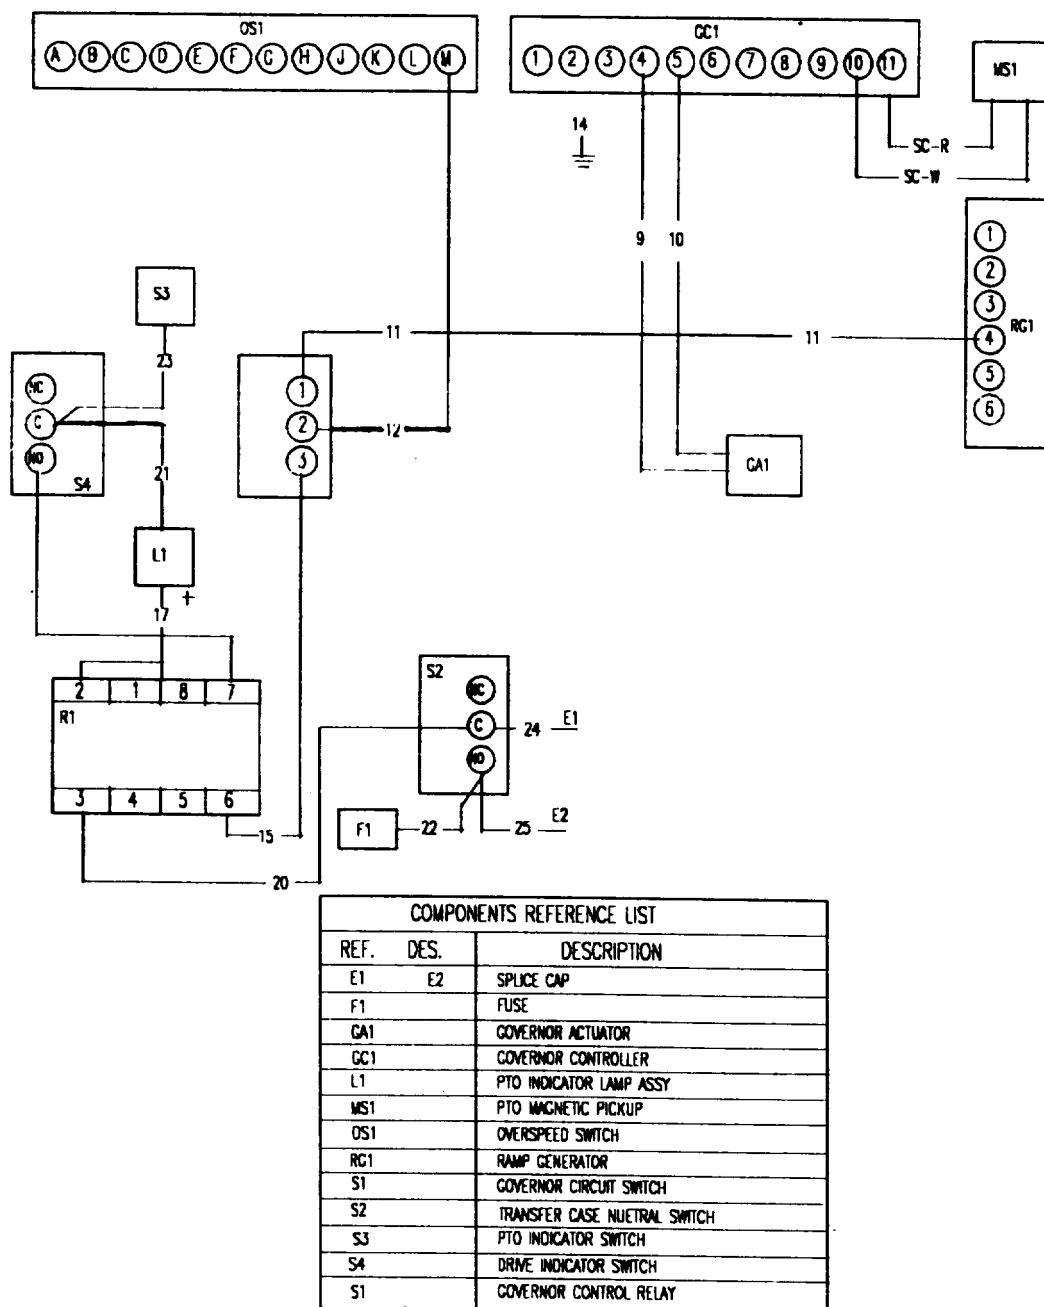

Figure 5-10. Governor Wiring Harness Wiring Diagram.
- (1) To assemble a new wire run, refer to tables 5-1 and 5-2. Identify type of wire harness terminals and type/length of electrical wire needed. Construct new wire run and test for shorts/opens. If the electrical harness tape insulation cannot be broken, run new wire run along the outside of the harness and secure to existing wire bundle by either taping or tiewraps.
- (2) To replace a defective wire harness terminal, inspect the wiring harness in accordance with paragraph c., preceding, and locate the defective wire harness terminal. Refer to table 5-1 to determine the wire harness terminal/electrical wire needed and then to table 5-2 for the part number of the wire harness terminal/electrical wire needed. Uncrimp the defective terminal and crimp the replacement terminal or construct a new wire run. If the electrical harness cannot be broken, run the new wire run along the outside of the wire harness and secure to the existing wire bundle by either taping or tiewrapping the new wire run to the existing wire bundle.
**e. Installation.** Refer to figure 5-10 for wiring diagram of governor wiring harness connections and to figure 5-9 for governor wiring harness installation.
- (1) Connect wire run 14 terminal (26) to elevated ground. Remove and discard tag.
- (2) Connect wire SC-RED terminal (23) to PTO magnetic pickup (MSI) + terminal. Connect wire run SC-WHITE terminal to PTO magnetic pickup (MSI) - terminal. Connect wire run 23 terminal (24) to PTO indicator switch (S3) on the power take off (25). Remove and discard tags.
- (3) Connect wire run 25 terminal (21) to splice cap E2. Connect wire run 24 terminal (22) to splice cap E1. Remove and discard tags.
- (4) Connect wire run 20 terminal (19) to transfer case neutral switch (20) terminal C. Connect wire run 22 terminal (19) to transfer case neutral switch (20) terminal NO. Connect wire run 24 terminal (19) to transfer case neutral switch (20) terminal C. Connect wire run 25 terminal (19) to transfer case neutral switch (20) terminal NO. Remove and discard tags.
- (5) Connect wire runs 9 and 10 terminals (17) to governor actuator (18) terminals. Remove and discard tags.